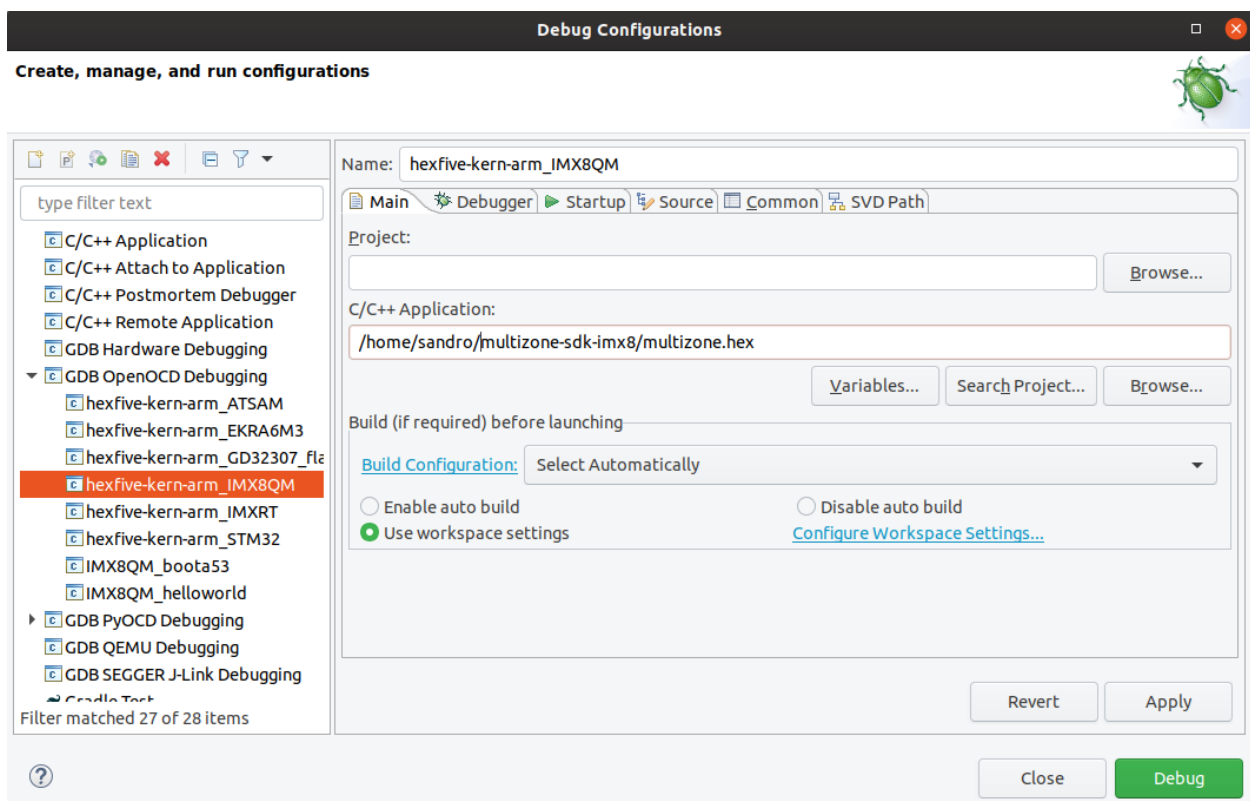

Figure 11. Debug configuration window in the “Main” tab.
- 5) Follow the Figures 11, 12, 13, and 14 to configure the new debug configuration. Modify all user dependent properties on directory paths on each “Main”, “Debugger”, and “Startup” tabs.